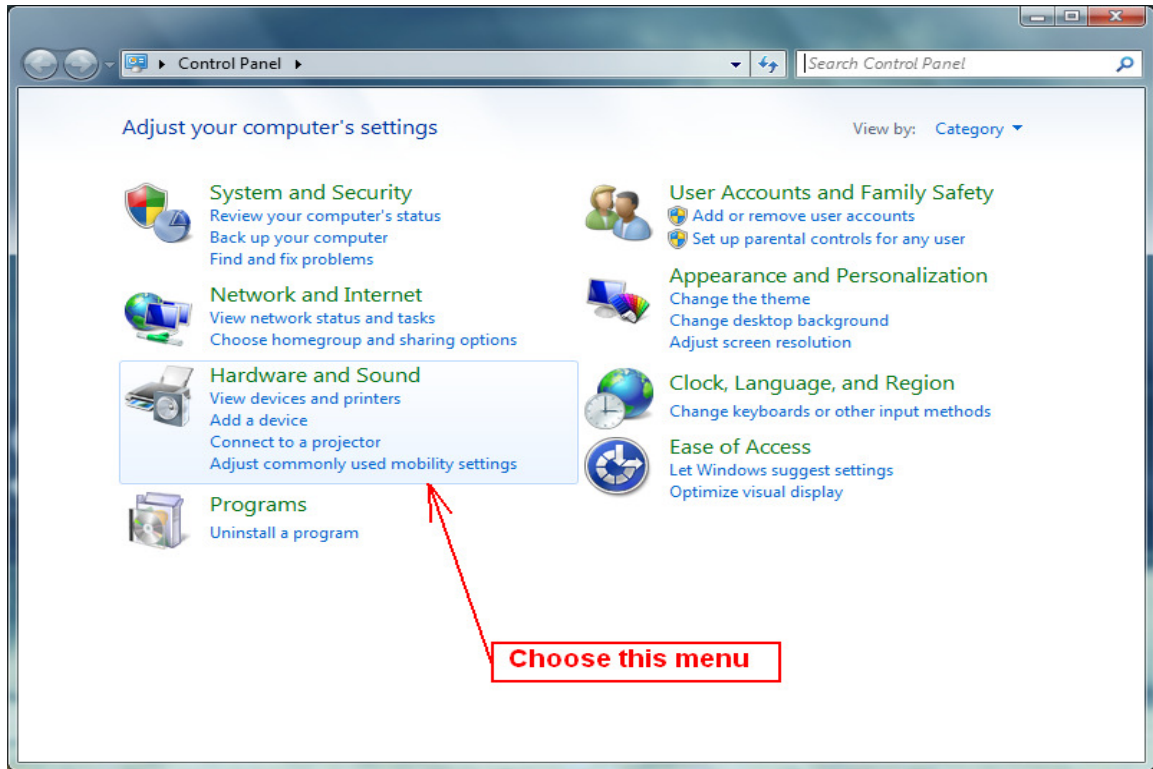

Figure 13 “Control Panel” window
- In “Control Panel” choose “Hardware and Sound” menu (see **Figure 13**).